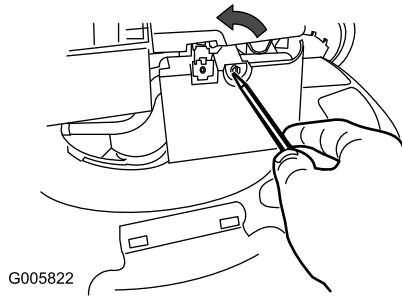

Figure 17
1. Use a screw driver to open the air-filter cover (Figure 17).